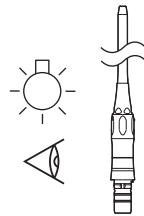

Fig. 12
- 2 Visually check that all contamination is removed (Fig. 12). In case there is residual contamination, repeat the procedures of Pre-cleaning through Purging until all contamination is removed. Proceed to Lubrication (Refer to "10-3 Lubrication").